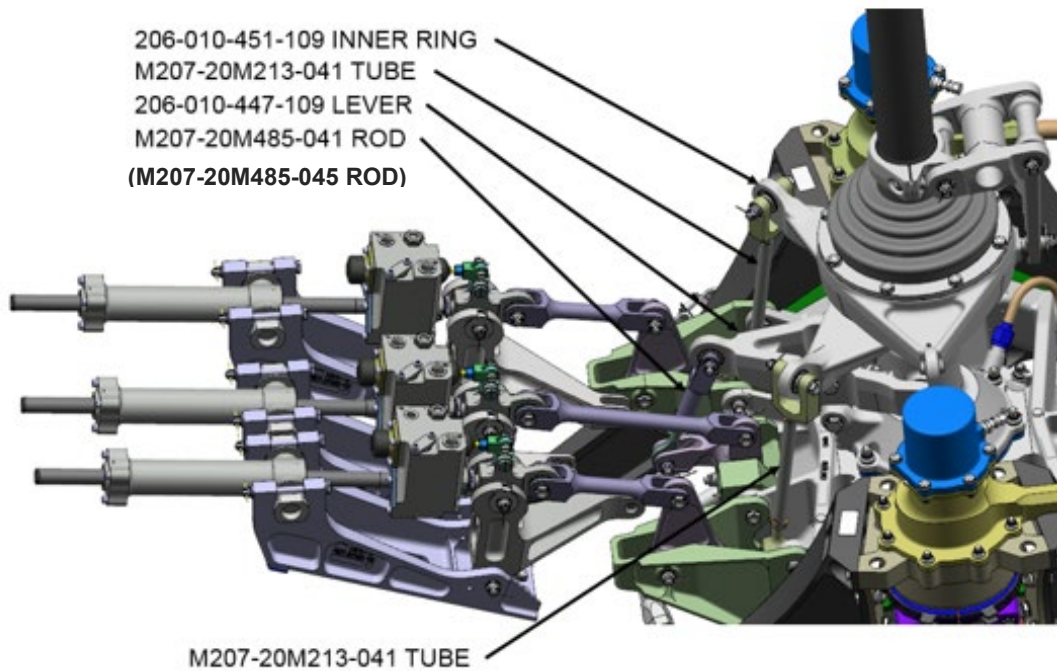
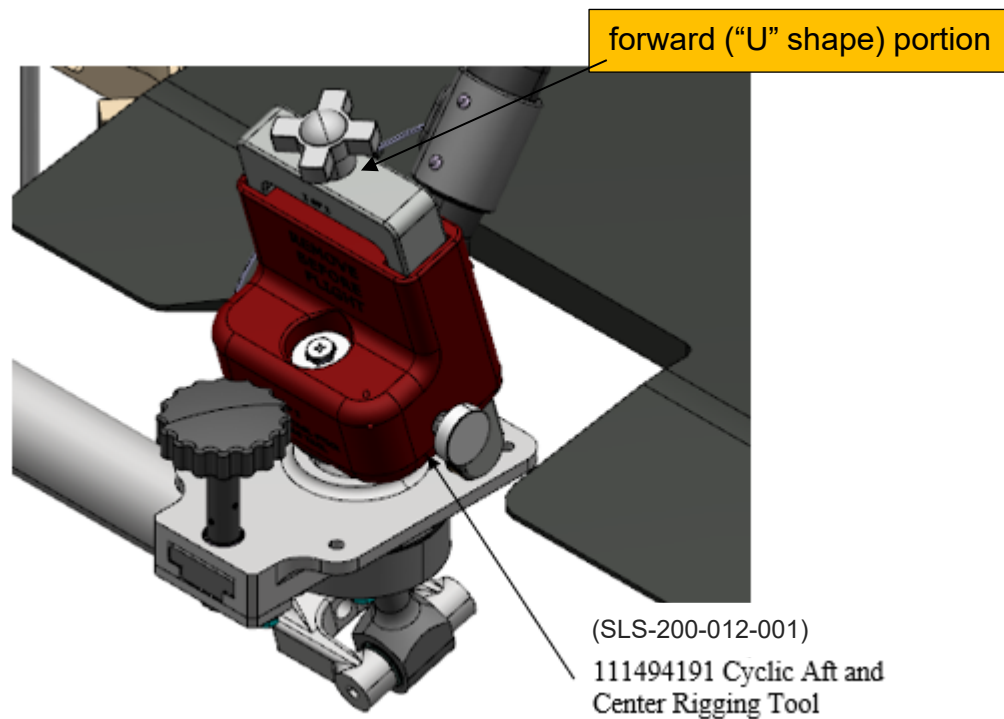
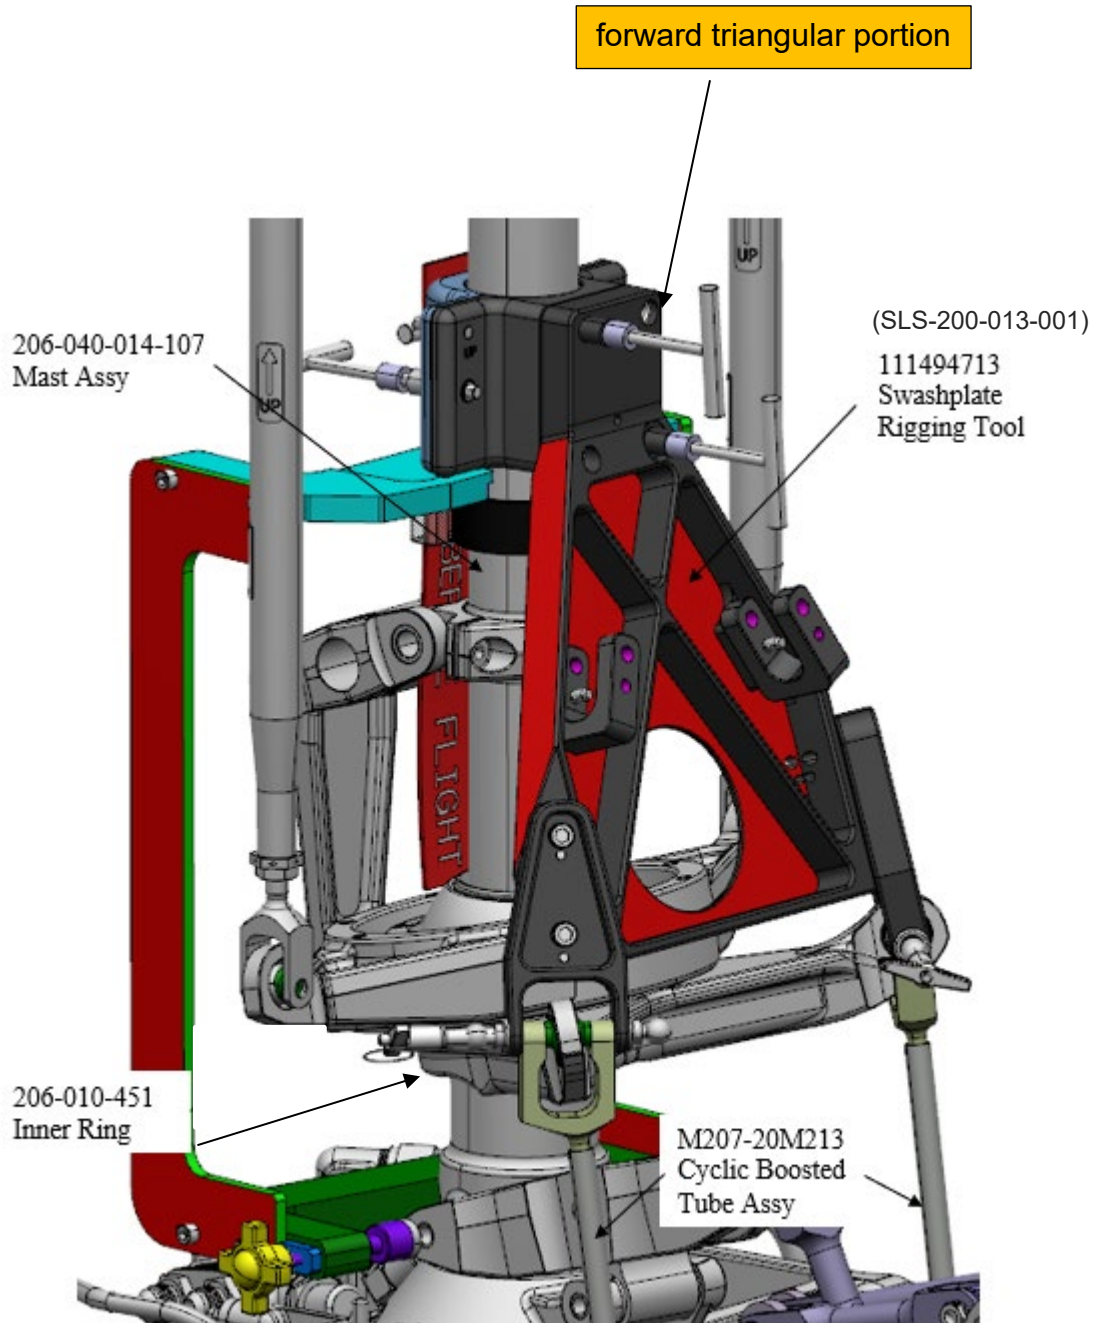

FIGURE 8 – Collective Rod / Cyclic Boosted Tubes
FIGURE 9 – Cyclic Aft and Center Rigging Tool (SLS-200-012-001)
FIGURE 12 – Swashplate Rigging Tool Installation (SLS-200-013-001)
- c. Disconnect the M207-20M485-041 (or M207-20M485-043) rod from the 206-010-447-109 lever assembly (Figure 8).
- f. Loosen the friction knob on the pilot cyclic stick and install the SLS-200-012-001 (111494191) cyclic aft and center rigging tool to position the cyclic stick against the up stop and centered in the lateral direction as follows (Figure 9):
- (1) Remove bolt and washer from the cyclic base assembly.
- (2) Secure the SLS-200-012-001 (111494191) tool using the previously removed bolt and washer on the cyclic base assembly.
- (3) Using the knob on the side, adjust the tool to ensure it is properly seated laterally (no lateral movement) then tighten the top screw.
- (4) Remove cyclic friction.
- (5) Pull on the cyclic stick backward to position the cyclic stick against mechanical stop (cyclic aft).
- (6) Tighten the knob on top of the tool until it presses on the cyclic stick base. While tightening the knob, pull gently on the stick until the stick is straight and stable in a backward position.
- i. Loosen the nut on the tube M207-20M485-041 (or M207-20M485-043) and turn the clevis to adjust the length to fit at the 206-010-447-109 lever assembly. Make sure that the two holes of the clevis assembly align with the hole of the collective lever. The attachment bolt should fit freely. Exposed threads on the rod shall not exceed 1 inch (25.4 mm) (Figure 8). Tighten nut to 80 to 100 inch-pounds (9.1 to 11.4 Nm).
- I. Install the SLS-200-013-001 (111494713) swashplate rigging tool on the 206-040-014-107 mast assembly (Figure 12).
- n. Loosen the nut on the left control tube. Adjust the control tube length to fit at the inner ring and the rigging tool. The attachment pin should fit freely. Exposed threads on tube shall not exceed 1 inch (25.4 mm) (Figure 12). Tighten nut to 95 to 110 inch-pounds (10.8 to 12.4 Nm).
- o. Loosen the nut on the right control tube. Adjust the control tube length to fit at the inner ring and the rigging tool. The attachment pin should fit freely. Exposed threads on tube shall not exceed 1 inch (25.4 mm) (Figure 12). Tighten nut 95 to 110 inch-pounds (10.8 to 12.4 Nm).
- (1) Remove the forward triangular portion of the SLS-200-013-001 (111494713) swashplate rigging tool (Figure 12).
- (2) Reconnect the M207-20M213 tubes to the left and right horns of the 206-010-451-109 swashplate inner ring.
- (3) Remove the forward ("U" shape) portion of the SLS-200-012-001 (111494191) cyclic aft and center rigging tool (Figure 9).
- (4) Cycle the cyclic stick.
- (5) Re-position the cyclic stick to aft and center by installing the forward ("U" shape) portion of SLS-200-012-001 (111494191) cyclic aft and center rigging tool. Refer to step f. (5) and (6) to ensure proper installation of the "U" shape tool.
- (6) Re-install the forward triangular portion of the SLS-200-013-001 (111494713) swashplate rigging tool (Figure 12).
- (7) Ensure the pins securing the M207-20M213 tubes and the 206-010-451-109 swashplate inner ring fit freely. If further adjustments are required repeat steps 4.m. through 4.o. until satisfactory.
- s. Apply corrosion preventive compound (C-104) to the shank of the bolt securing the two control tubes M207-20M213 to the inner ring assembly. Install the washers and the nut. Tighten nut to 100 to 140 inch-pounds (11.4 to 16.0 Nm), then loosen the nut only sufficiently to install the new cotter pin. Apply corrosion preventive compound (C-101) to the bolt head, nut and washers (Figure 8). (DMC-505-A-67-11-00-00A-271A-A, DMC-505-A-67-12-00-00A-271A-A).